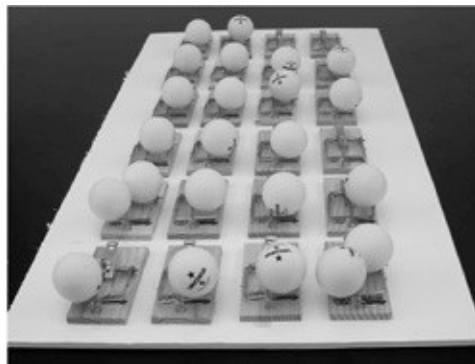

Figure 123-2 *Each ping pong ball represents a neutron.*
2. Carefully place two ping-pong balls on each of the mousetraps (where the cheese would have gone). See Figure 123-2.